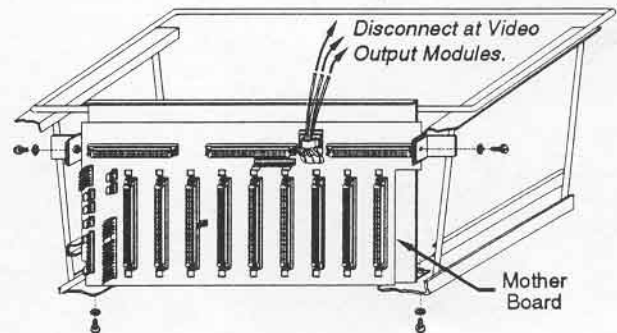

Figure 5-25. Mother Board Removal
- h) Remove the hex head screws securing the projector bottom plate to the projector frame. See Figure 5-25.